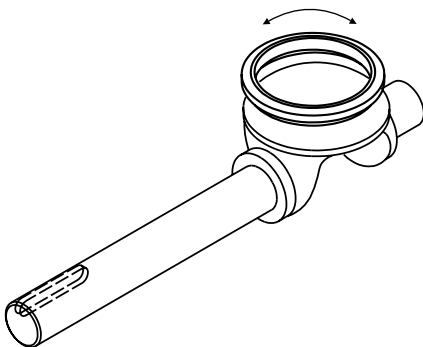

Fig.6-5 Cleaning, grinding and lubrication
3. Grind the ball segment into the new seat. Use valve grinding paste and rub the seat and ball segment against each other until the surfaces of the sealing area are evenly matt (→ Fig.6-5).
Grind the ball segment into the new seat. Use valve grinding paste and rub the seat and ball segment against each other until the surfaces of the sealing area are evenly matt (→ Fig.6-5).